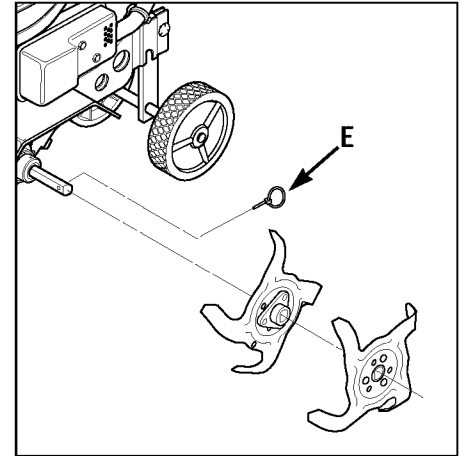

Figure 3: Remove ring lock pins and tines from both sides of the tine shaft. Keep left and right-side tines separated and marked for easier reinstallation.
3. Flip open the ring on the two ring lock pins (E, Figures 3 and 4) and remove the ring lock pin on each tine shaft.
4. It is important for proper tilling performance that the tine sections be later reinstalled in their original patterns. Mark the position of each tine section (Left-Outer, Left-Inner, etc.) before removing them. Refer to Figures 3 and 9 for tine pattern information. See also *Tine Removal and Installation* in Section 5.